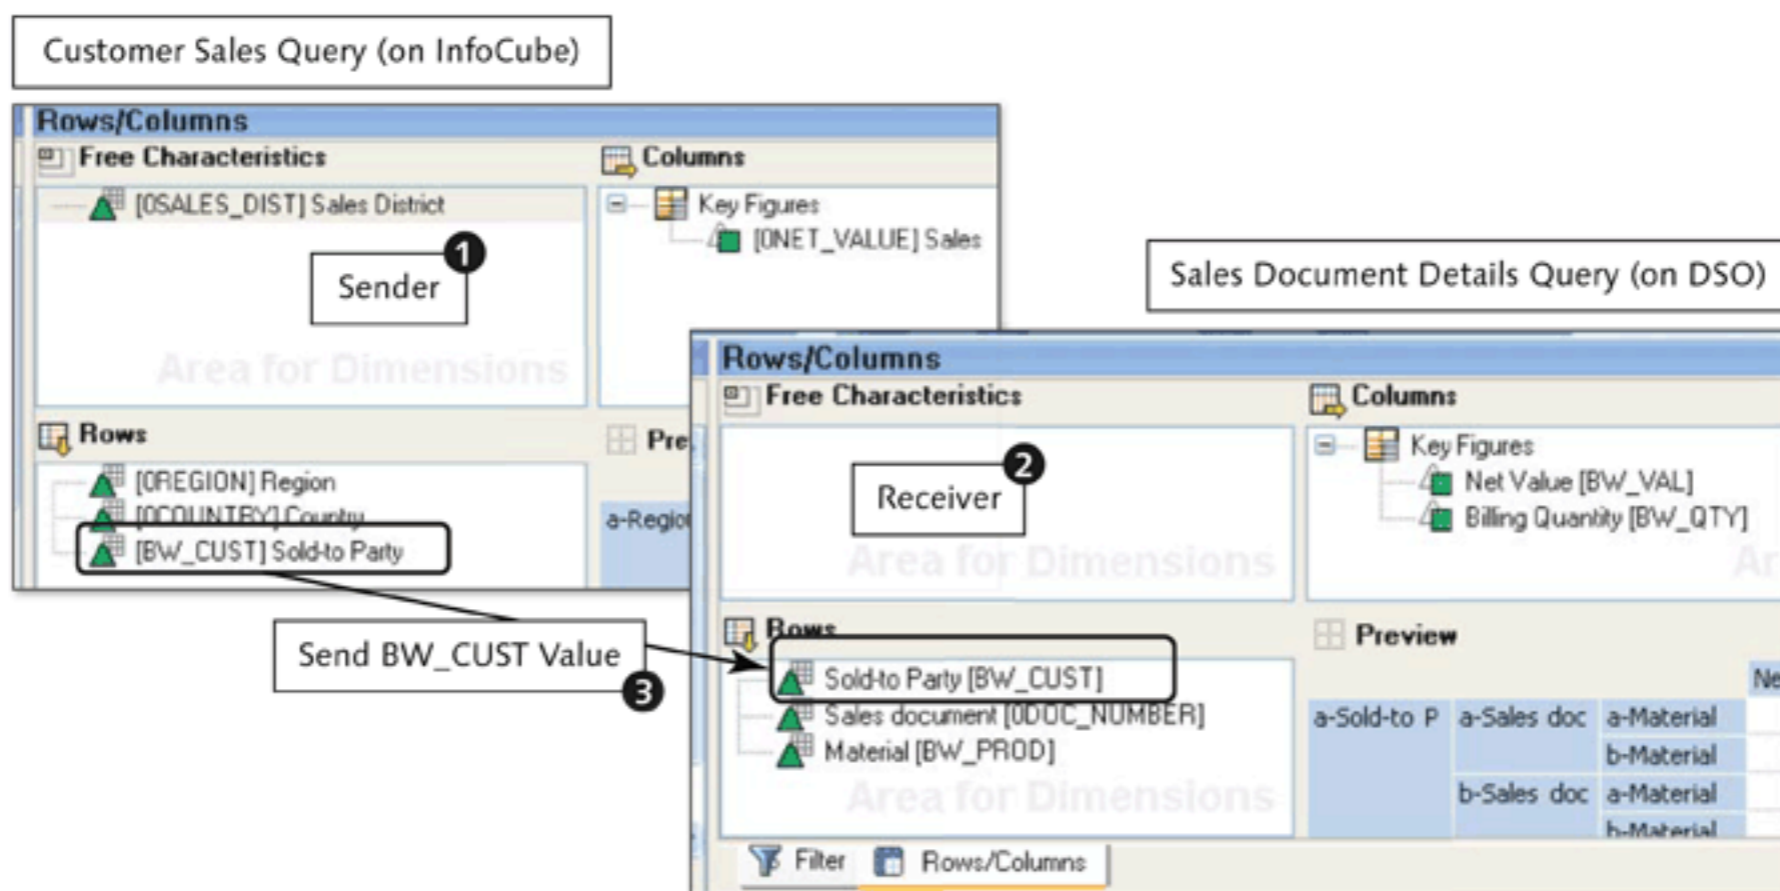

Figure 9.93 The Concept of RRI
For the given example, say there is a customer sales query on the InfoCube, which shows sales for different customers (❶ of Figure 9.93), and there is another query built on the DSO with detailed information that shows sales document details (❷). Using RRI, you can pass a specific value of customer from the customer sales